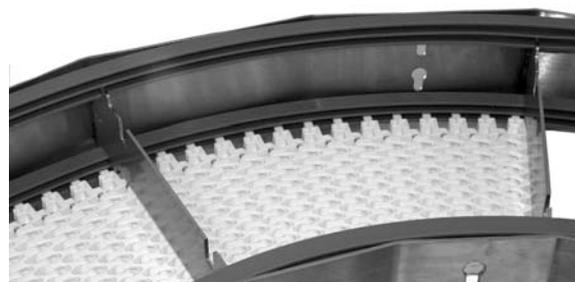

Figure 24
4. Feed the ends of the belt through the top and bottom of the curved frame sections (Figure 24).